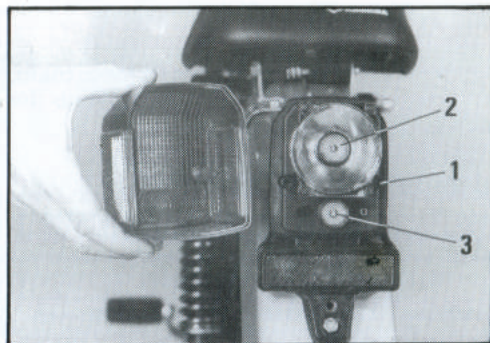

Fig. 21
To change the stoplight bulb (2) 6V 10W (Fig. 21) and the running light bulb (3) 6V 5W, loosen the two supporting screws (1) and remove the taillamp lens. Remove the bulbs by pushing in gently and turning counter-clockwise.